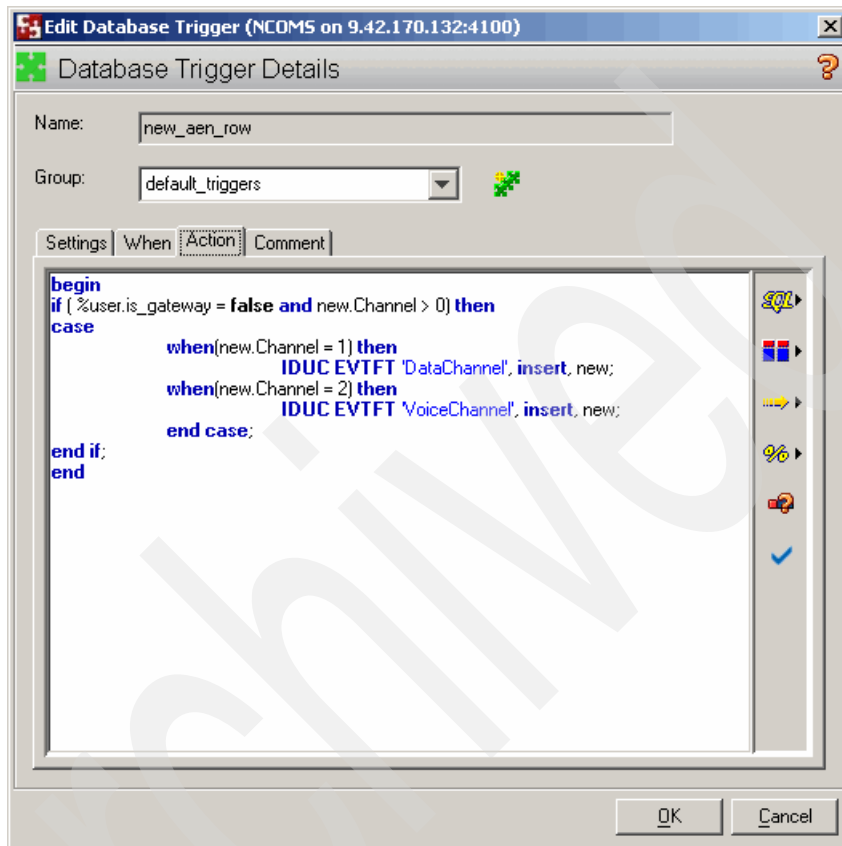

Figure 4-57 Create trigger action
- Define a database trigger to respond to either the Flag field or the appropriate database action or condition, using the SQL commands IDUC EVTFT or IDUC SNDMSG to generate AEN, as shown in Figure 4-57.